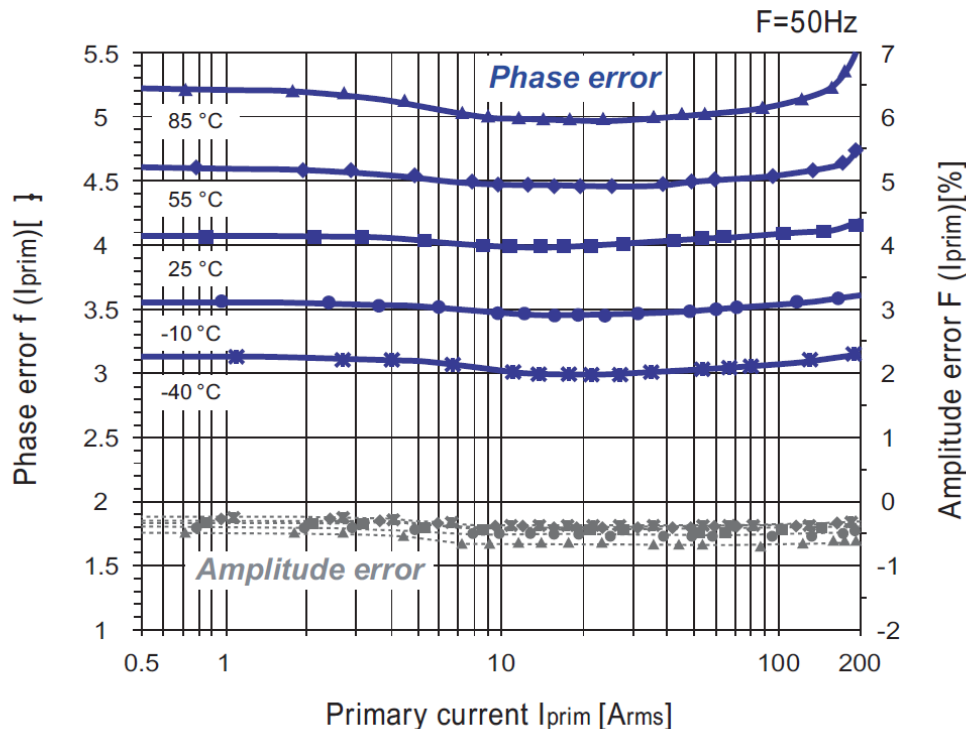

Figure 1: JD TN100W Performance
J&D Electronics provided samples of several advanced CTs to Teridian for testing. The model JD TN100W was selected for testing in a poly-phase meter setup. The data sheet of the JD TN100W (see Figure 1) indicates that it is a CT that has a narrowly contained magnitude error and large phase shift, which itself has a strong temperature dependency. At 60° load angle, we would expect the phase error shift from 3.1° (-40°C) to 5.2° (+85°C) to cause an error component for the Wh measurement of 5.8%. Even at constant temperature, the phase angle varies by as much as 0.3% over current, resulting in a Wh error of 0.54%. This means that compensation has to be introduced for the phase error over temperature and over current at the least.
A new set of measurements was done with the interpolated calibration coefficients as before, but with the PHADJn coefficients corrected by the PHADJ Delta values shown in Table 1. From the phase errors shown in Figure 1, we would expect the Wh errors at 60° load angle and +85°C temperature to increase by 3.3% (corresponding to the phase angle increase of 1.1°).
- 1) The function of Wh error over temperature is linear, which manifests itself in the equidistant phase error lines in Figure 1.